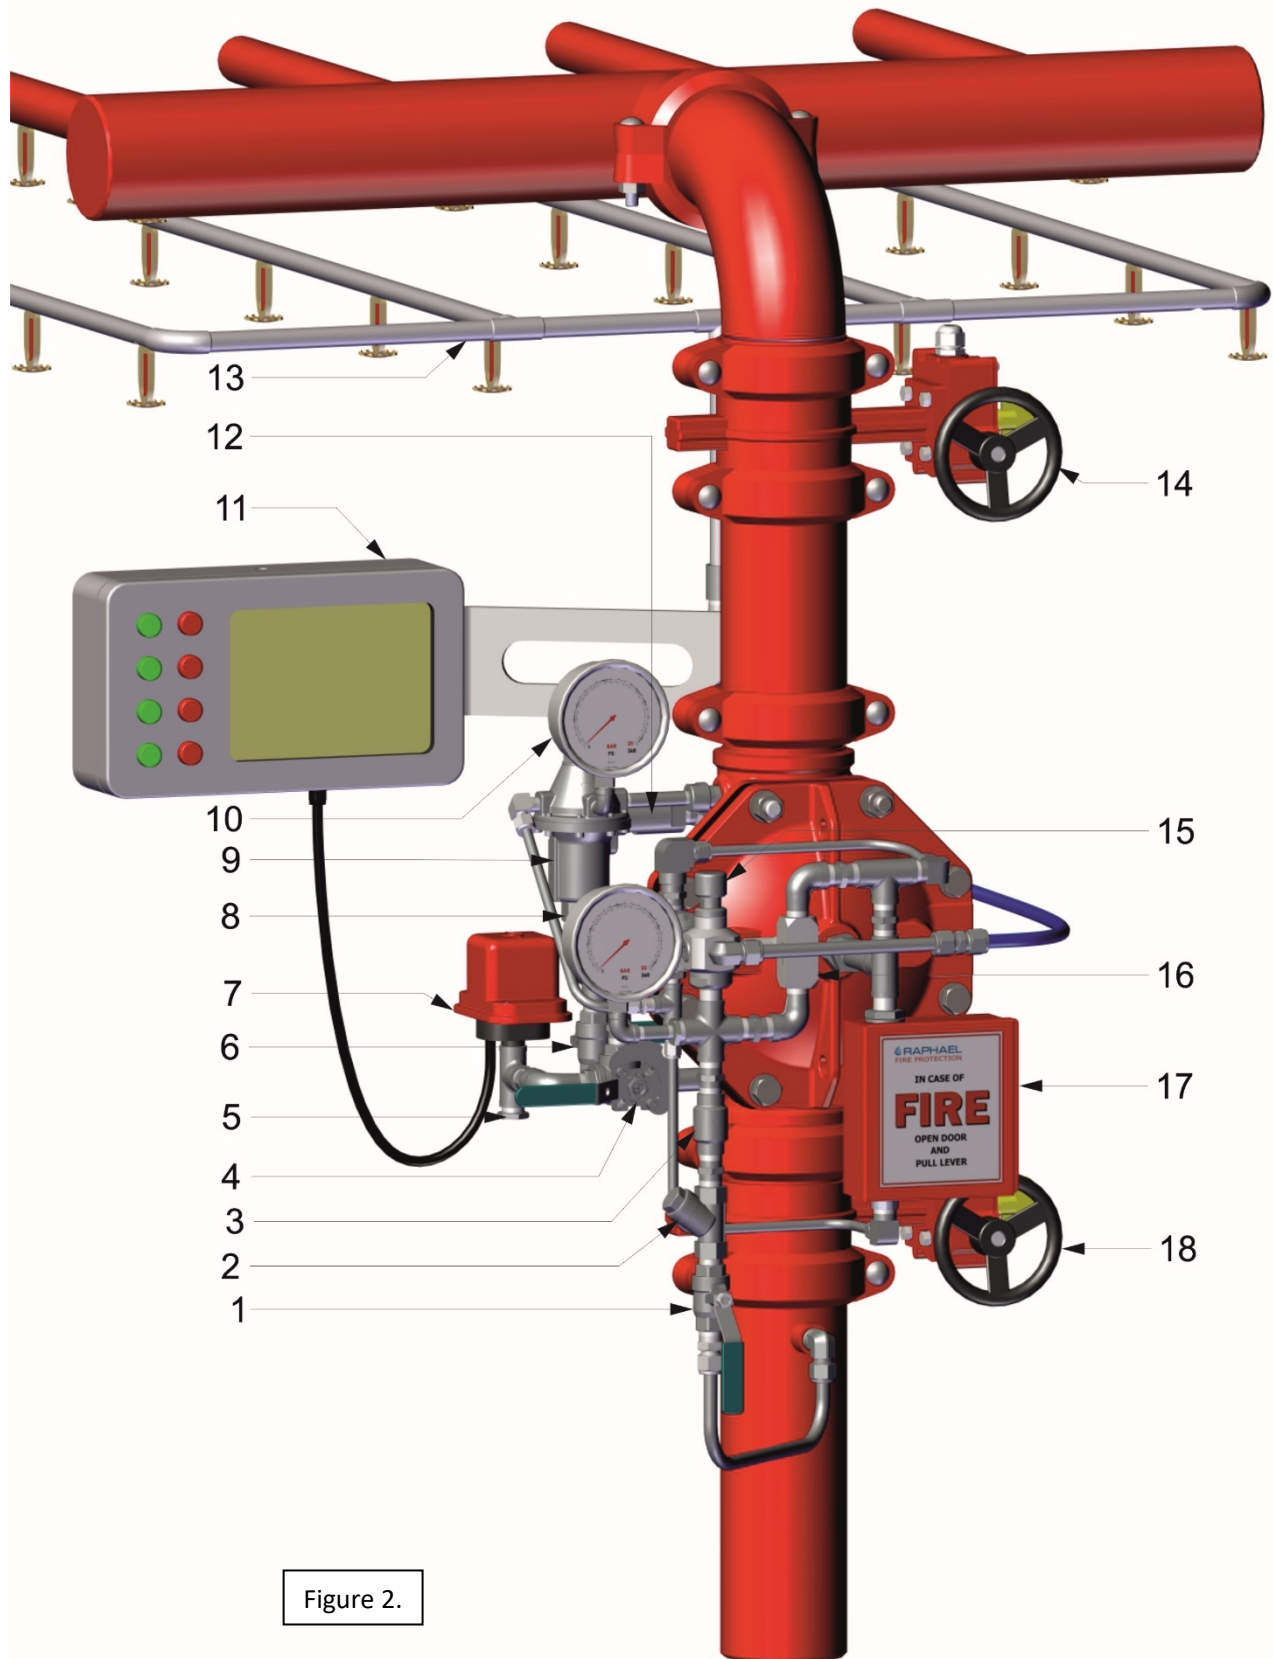

Figure 2.
By that, the system moved into the SET position. The sprinklers pipeline should be drained by opening the FDV downstream drain port's ball valve (6 figure 2) or by pressing down the MADV (13) push bottom.
Installation (Reference Figure 2)
8. All connections to water supply, should be done in accordance with figure 2
(reference - figure 2)
The procedure described should be carried out after system installation completion and a comprehensive inspection. (Reference Drawing - figure 2)
Fire Situation Simulation (Reference Drawing - figure 2)
Resetting & placing in service (Reference Drawing - figure 2)